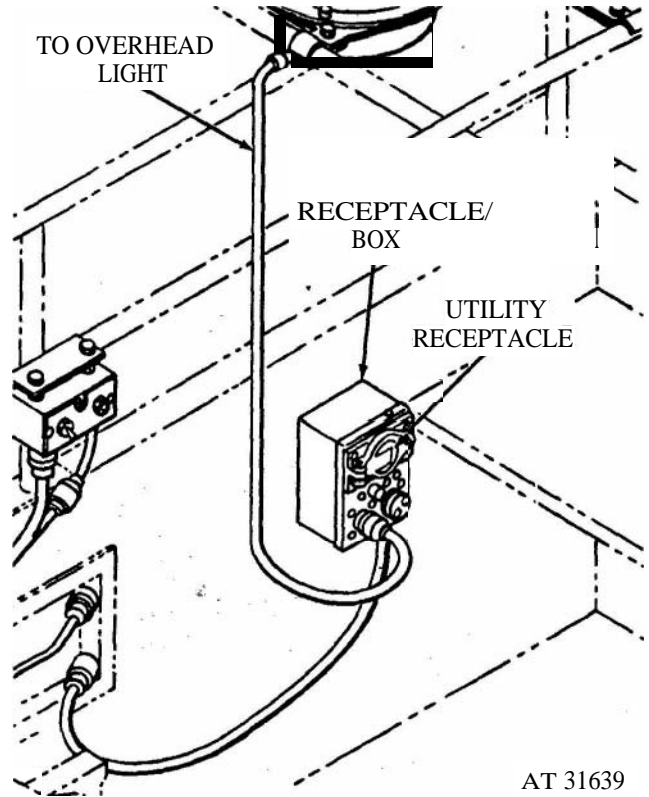

Figure 1-21. M792 **ambulance**, utility receptacle box.
n. *Utility Receptacle Box.* A junction box containing three receptacles (fig 1-21) is connected by means of an extension cable to one receptacle outlet in the forward bulkhead of the carrier. One of the three receptacles in the junction box serves as a connection for the surgical light in the carrier. The other two receptacles are of the general purpose type (twist lock and prong) for plugging in apparatus or appliances which may be brought aboard for *use in* the carrier of the ambulance.